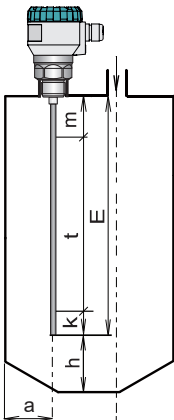

Fig. 1: Level meter installation with the rod electrode
- Otherwise, the level meter install as far as possible from the walls, to the middle between the wall and the vertical inlet, see Fig. 1., 2, 3 and 4.
- It is an area in which continuous level measurement takes place. The maximum measuring range is determined by the length of the measuring electrode with the subtraction of dead zones at the beginning and at the end of the electrode, see Figs. 1, 2, 3, and 4. This range is also the default setting of the level meter. The maximum measuring range can be reduced by the user by changing the minimum and maximum levels in case of obstacles near the end or in particular at the beginning of the measuring electrode.
- In connection with the measurement principle, electromagnetic waves reflected in the area immediately below the level meter and also at the end of the electrode cannot be evaluated (see Figs. 1, 2, 3, and 4). These zones determine either the minimum possible distance between the level meter and the highest level (“m” parameter) or the minimum distance at the end of the electrode (“k” parameter). **The level meter must be installed in such a way that the level does not interfere with the dead zones at the maximum and minimum possible filling of the storage tank.**